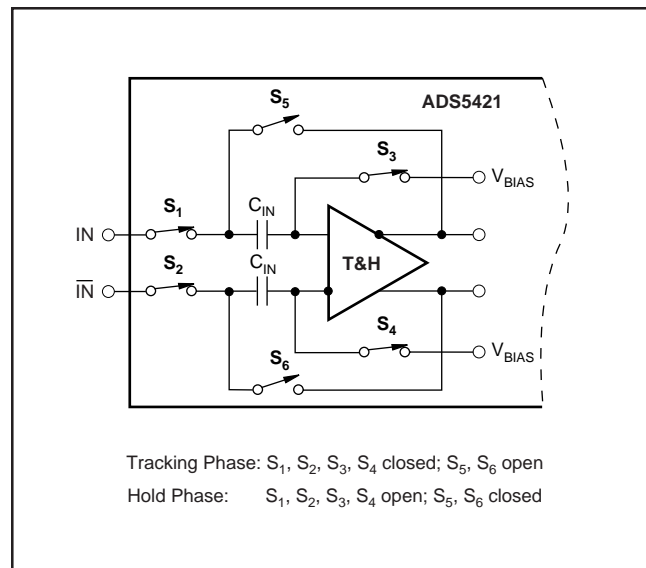
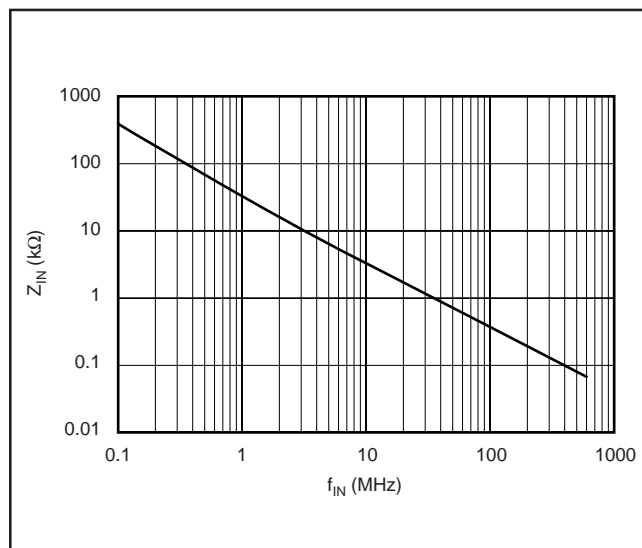

FIGURE 1. Simplified Circuit of Input Track-and-Hold Amplifier.
FIGURE 2. Differential Input Impedance vs Input Frequency.
The analog input of the ADS5421 consists of a differential track-and-hold circuit, as shown in Figure 1. The differential topology produces a high level of AC performance at high sampling rates. It also results in a very high usable input bandwidth—especially important for Intermediate Frequency (IF) or undersampling applications. Both inputs (IN , \overline{IN}) require external biasing up to a common-mode voltage that is typically at the mid-supply level ($+V_S/2$). This is because the on-resistance of the CMOS switches is lowest at this voltage, minimizing the effects of the signal-dependent,
The input of the ADS5421 is capacitive, and the driving source needs to provide the slew current to charge or discharge the input sampling capacitor while the track-and-hold amplifier is in track mode (see Figure 1). This effectively results in a dynamic input impedance that is a function of the sampling frequency. Figure 2 depicts the differential input impedance of the ADS5421 as a function of the input frequency.